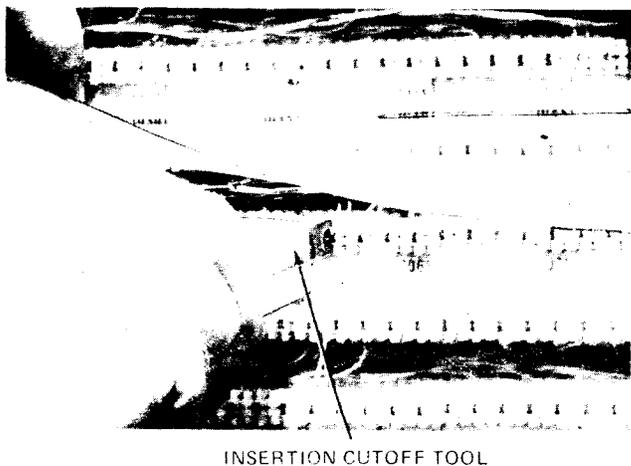

Fig. 5—Seating and Cutting Cross-Connecting Wire
4.03 Using the insertion cutoff tool, seat and cut the cross-connecting wire (Fig. 5).